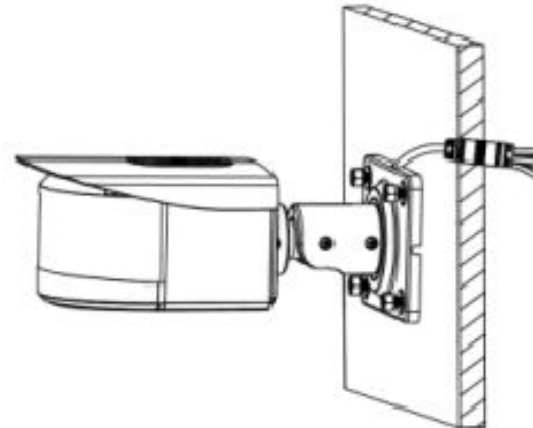

Figure 2-4
Step 4 For side cable exit, see Figure 2-4.